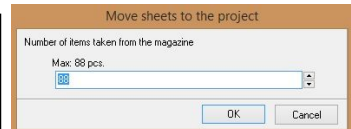

Fig. 58 – moving sheets to the project
- - moves chosen sheets from the general magazine to the current project. It is necessary to specify the quantity of sheets to be moved (the maximum number is equal to the quantity of sheets of a particular type present in the magazine) (Fig. 58). The given number of sheets will be removed from the magazine and added to the current project list. Sheets can also be moved by a 'drag-and-drop' method.